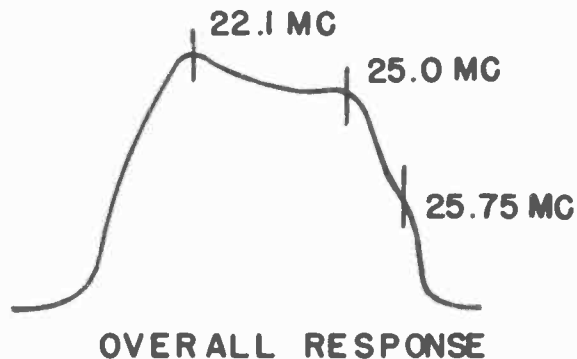

Figure 4
11. It will be necessary to touch up the I-f adjustments to get the shown over-all response (Fig. 4).
7. Overall I-f response should be as in Fig. 4. Markers should locate as shown.